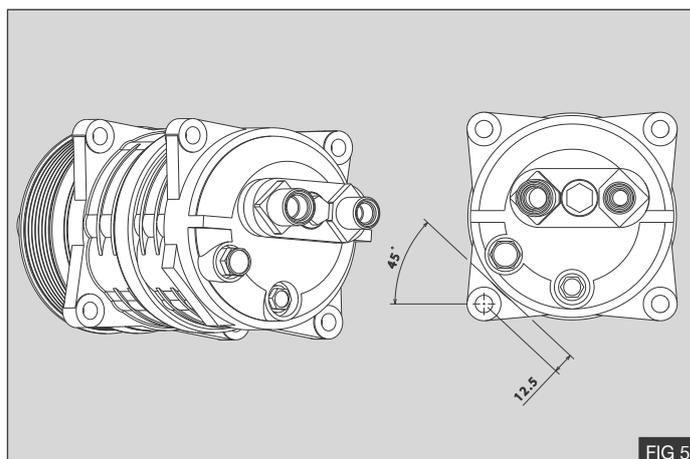

FIG 5
5. Remove section of compressor ear - Fig 5